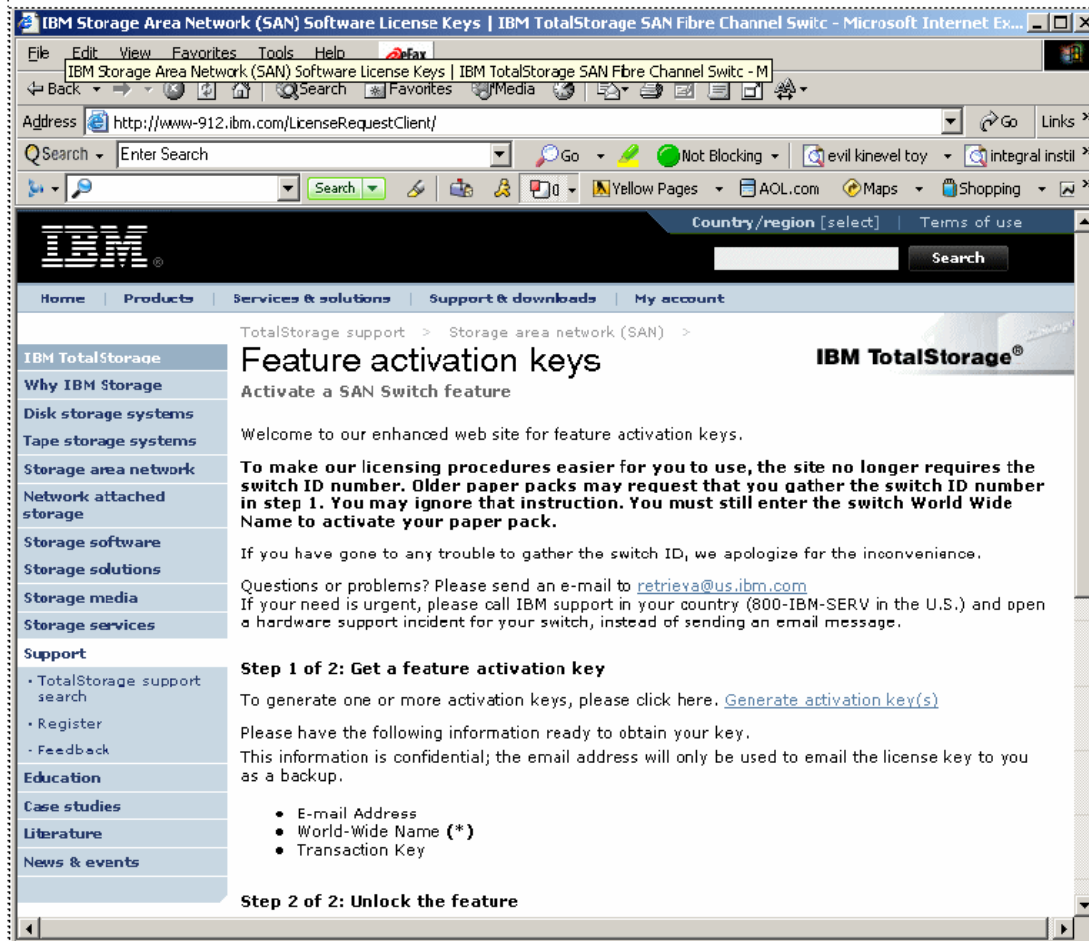

Figure 5-14 IBM License Key activation window
4. Enter your e-mail address, switch module license ID, and the transaction key on the Web page shown in Figure 5-14. Please note that the LicenseID should be entered into the WWN field.